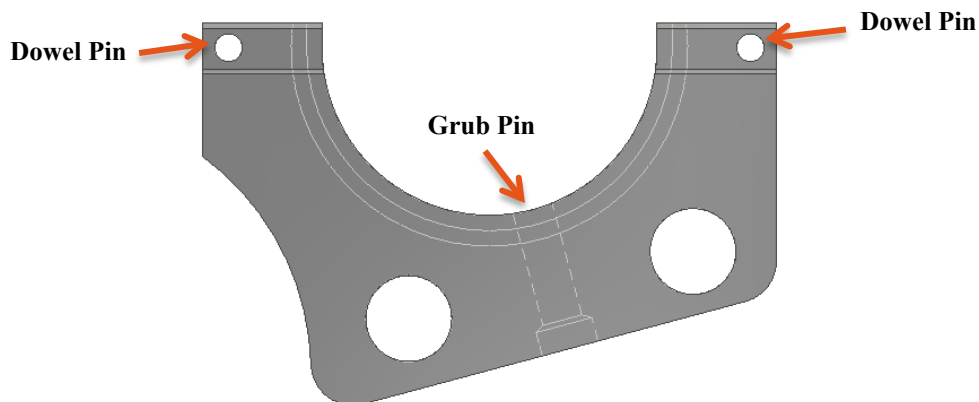

Figure 66: SkoFlo Supplied Tronic Split Flange
- 26.3.5.3.2 For tronic connectors install the SkoFlo supplied split flange and customer supplied split flange mount. Use the dowel pins and grub screw from the customer supplied split flange to attach the SkoFlo split flange as shown in Figure 66.